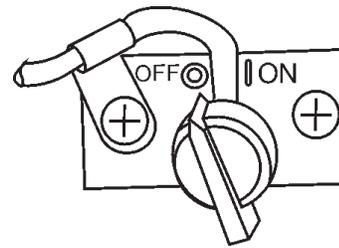

Figure 14. ON/OFF Switch (Off Position)
2. After the engine **cools**, turn the engine start/stop switch to the "**OFF**" position (Figure 14).